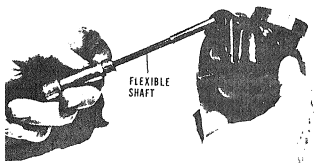

Figure 7. Inserting Tapped End of Flexible Shaft into Drive Roll Housing
d. Insert left-hand tapped end of flexible shaft into top hole of drive roll housing (Fig. 7) to engage end of wormshaft within housing.